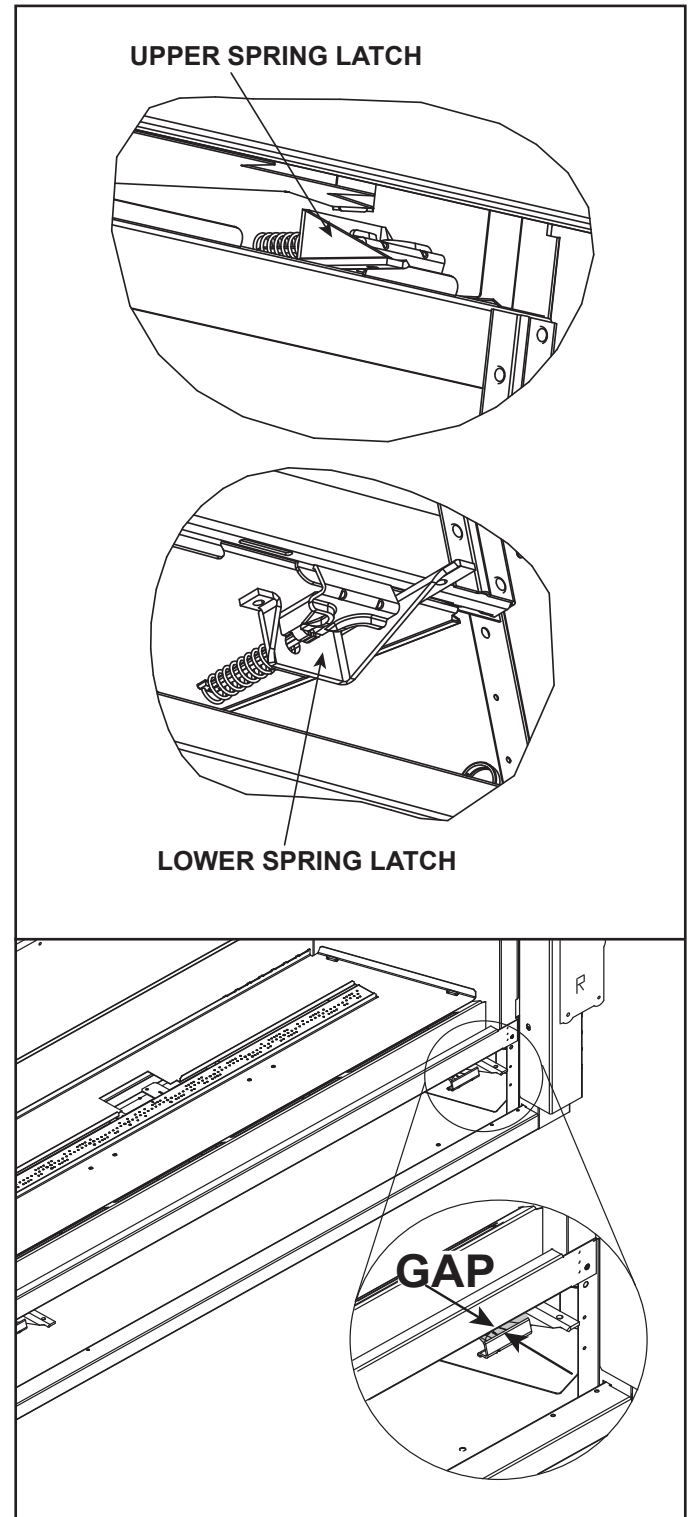

Figure 11.1 Fixed Glass Assembly
2. The glass assembly has two upper spring latches and two lower spring latches. See Figure 11.1. Locate the two spring latches that are on the upper left and right of the fireplace.
**Note:** Observe the presence of a space or gap between the glass latch and the front of the appliance where the bottom of the glass assembly is positioned. This gap is designed for positive placement when replacing the glass assembly. See Figure 11.1 and Section F.
The bottom glass latches have been designed to create a small gap between the glass clip and the face of the appliance. See Figure 11.1.